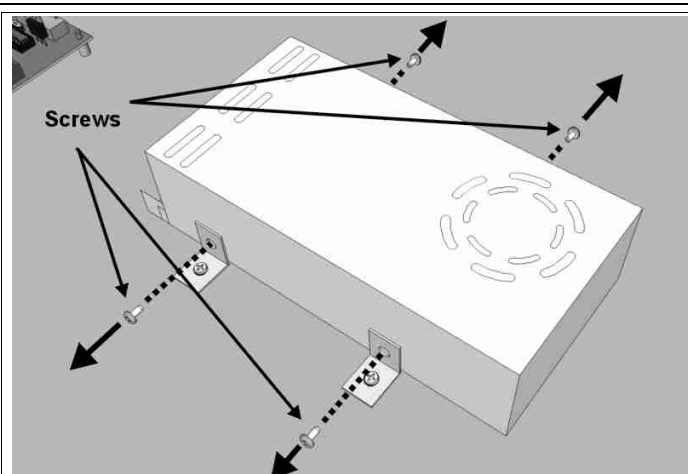

Fig. 20: Replacing the power supply unit
2. Identify the power supply in need of replacement (Fig. 20); keeping in mind their original positions, disconnect the cables from the terminal block with a Phillips screwdriver.
3. With the same screwdriver, remove the four screws (Fig. 20) located on the sides of the power supply unit and remove it from its position.